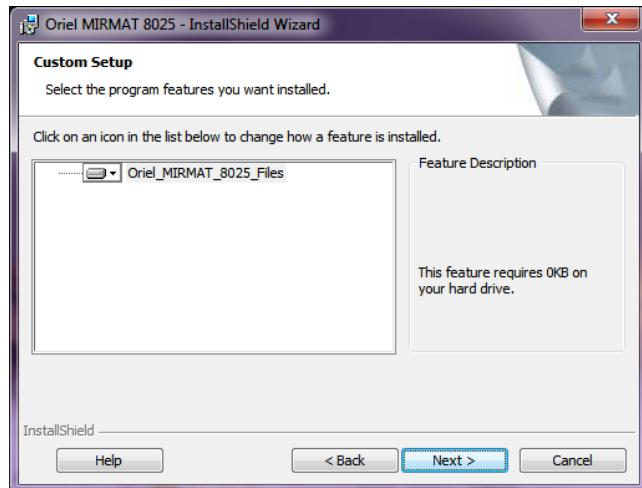

Figure 24: Select MIRMat Setup
19. Highlight “Mir80350\_Drivers\_Active” and click “Next” per Figure 24.